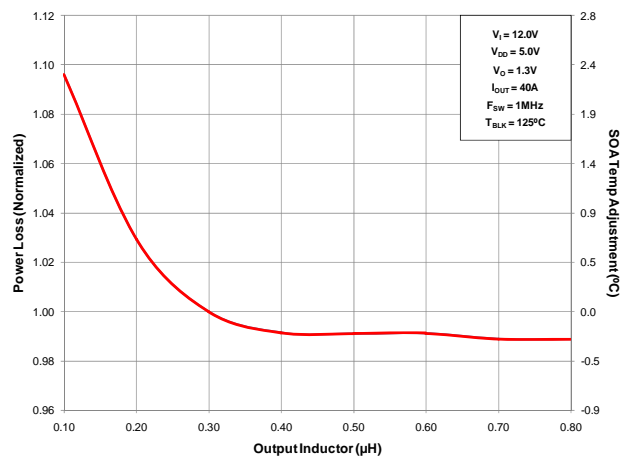

Figure 6 Normalized Power Loss vs. Inductance
- (Figure 6) Normalized power loss for output inductor \approx 1.03
- (Figure 6) SOA temperature adjustment for output inductor $\approx 0.6^{\circ}\text{C}$